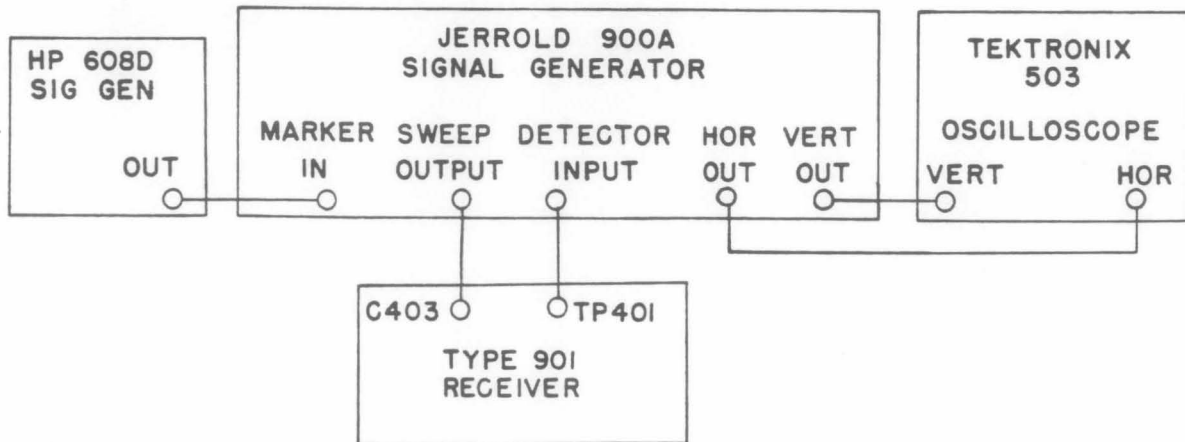

Figure 5-18. Type 901 Receiver, Equipment Setup, V402 to V403 Interstage Alignment
- (1) Remove bottom cover from the 30-60 mc tuner chassis.
- (2) Unsolder C403 from C402, carefully noting the positions of the two capacitors so that they may later be resoldered together exactly the same.
- (3) Set up equipment as shown in Figure 5-18.
(1) If C403 and C402 have been unsoldered, resolder them in the exact position they were in originally.
(2) Set up the equipments as shown in Figure 5-18 except that the output of the sweep generator is moved from C403 to the INPUT jack, J102.
(3) Set the oscilloscope vertical sensitivity to 10 mv per cm and the vertical input to the ac-coupled position.
(4) Set the oscilloscope horizontal sensitivity such that the total trace of the horizontal sweep is 10 cm.
(5) Set the receiver dial and sweep generator center frequency to 30 mc.
(6) Using a calibrated 30-mc signal from the Hewlett-Packard 608D signal generator as a marker, adjust C402 for a maximum symmetrical response centered at 30 mc.
(7) Change receiver dial to 60 mc and sweep generator frequency to approximately 60 mc.
(8) Using a calibrated 60-mc signal from the Hewlett-Packard 608D signal generator as a marker, adjust C402 for a maximum symmetrical response centered at 60 mc.
(9) Repeat steps (5) and (6).